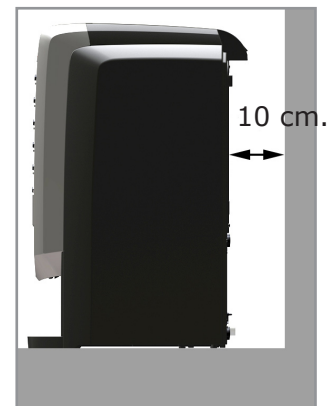

Figure 6
- Place the machine at least 10 cm from the wall so that the fan exhaust located on the back of the machine is not blocked (figure 6).